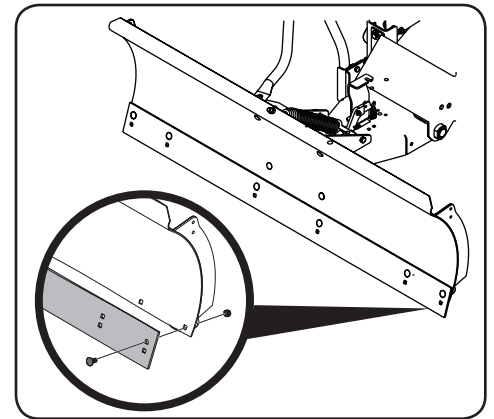

Figure 2-22
2. For tractors with 16" front tires, using the top set of mounting holes, install the shave plate (789-00467) to the blade assembly (689-00661) with six carriage bolts (710-0451) and six flange lock nuts (912-0429) from hardware pack 6. See Figure 2-22.